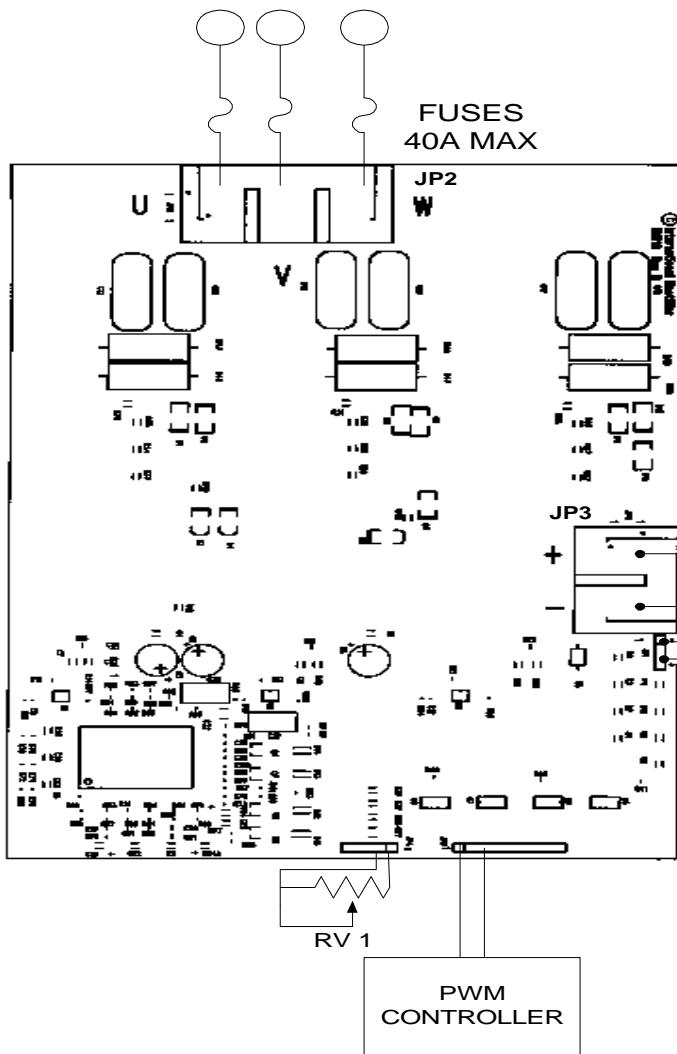

**Figure 3 AC input / DC output Power Connections for high (>40A) current**
**NOTE:** Higher current fuses can be used where the terminal blocks JP2 and JP3 are removed, and the power connections are made as shown in FIG 3.